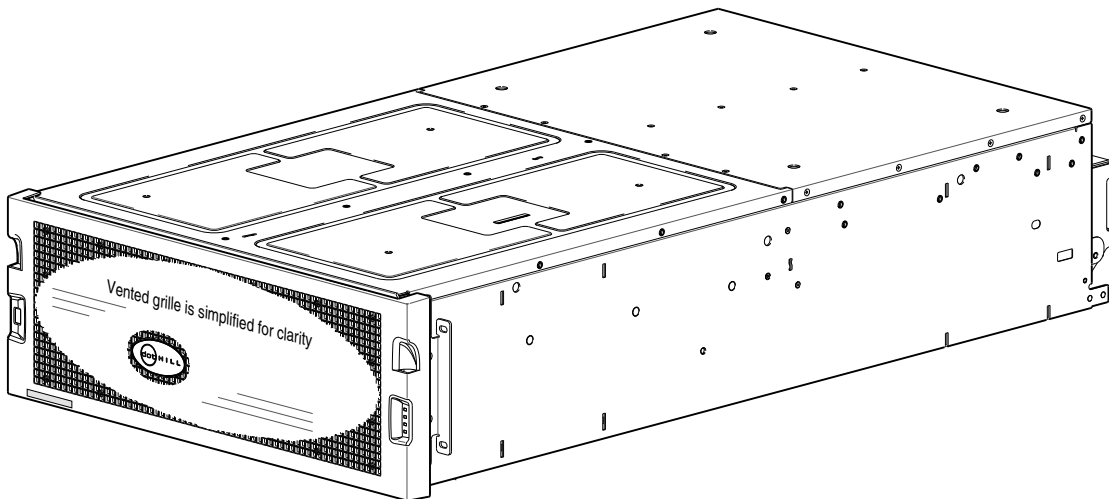
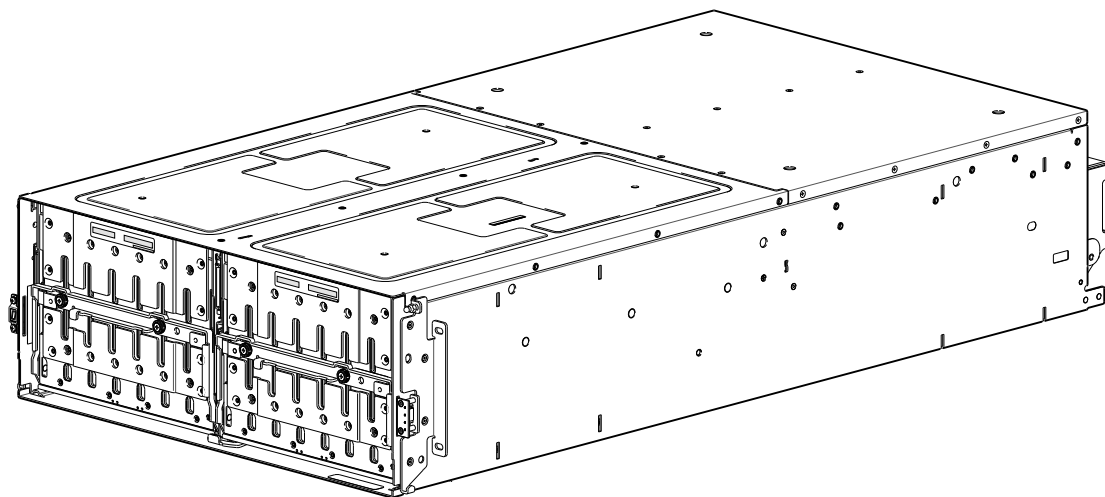
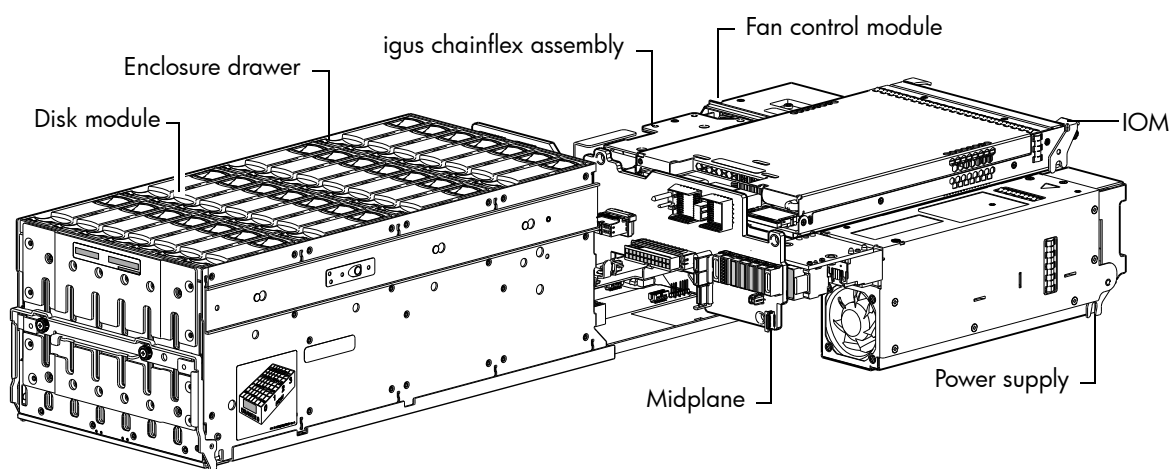
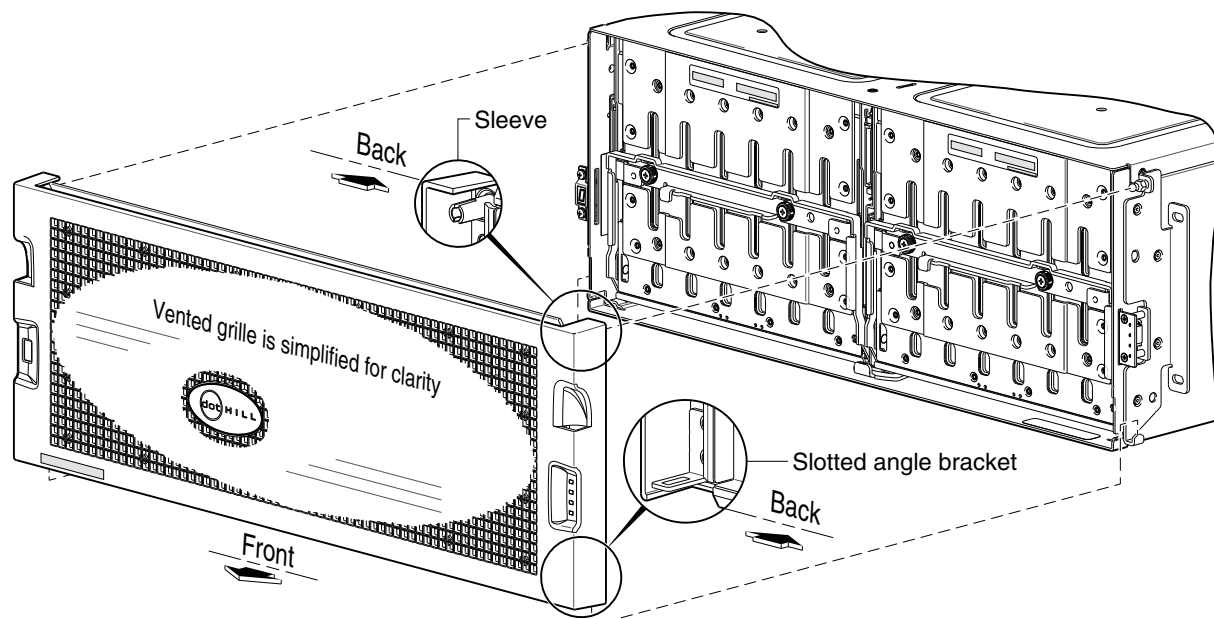

Figure 10 Enclosure assembly with bezel installed (4U56)
Figure 11 Enclosure assembly with bezel removed (4U56)
Figure 12 Enclosure architecture: internal components sub-assembly (4U56)
Figure 13 Partial assembly showing bezel alignment with 4U56 chassis
Figure 8 on page 19 through Figure 12 on page 21 illustrate 56-drive enclosure models. The 4U56 product models use an enclosure bezel during operation. The enclosure bezel is only partially shown in Figure 8 on page 19. The enclosure bezel is shown in its entirety in Figure 13 on page 22 (removed) and in Figure 10 on page 20 (installed).
- Assembly — Figure 10, Figure 11 on page 21, and Figure 13 on page 22
- Internal components sub-assembly — Figure 12 on page 21
The 56-drive 4U56 enclosure supports a bezel sub-assembly that attaches to the front of the chassis (see Figure 13 on page 22). The bezel—comprised of a vented cover attached to an EMI (Electromagnetic Interference) shield—is pre-assembled and packed with foam into a box included in the master shipping container.